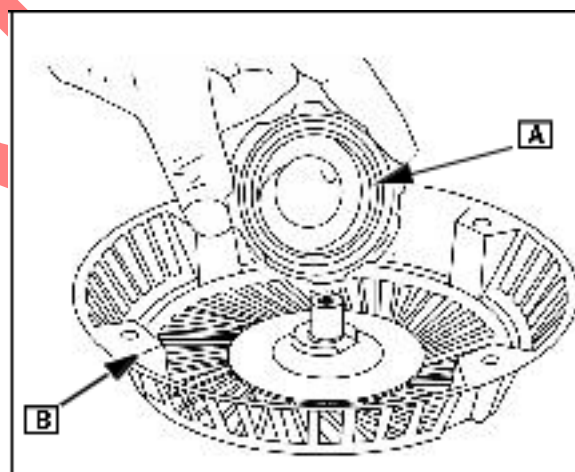

Fig. 13
Remove spring and cup (A) from starter housing ([B] Fig. 13) or pulley.